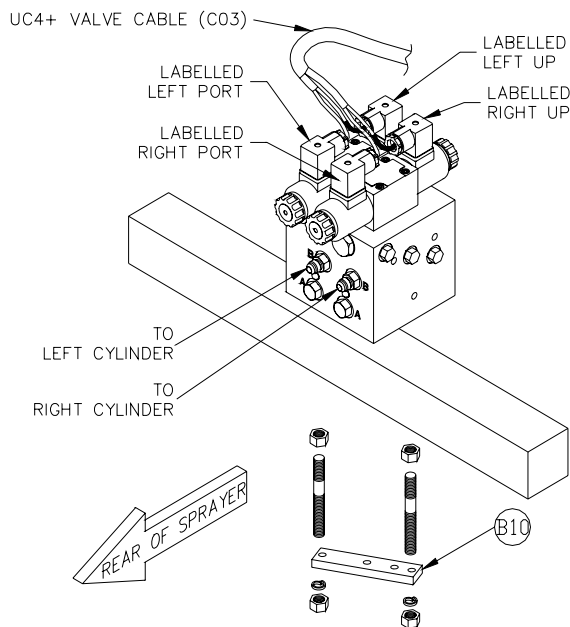

Figure 19 – Valve Mounting Location
2. As shown in **Figure 19**, screw short side of the threaded rods into the bottom of the valve block at least 3/8". The valve